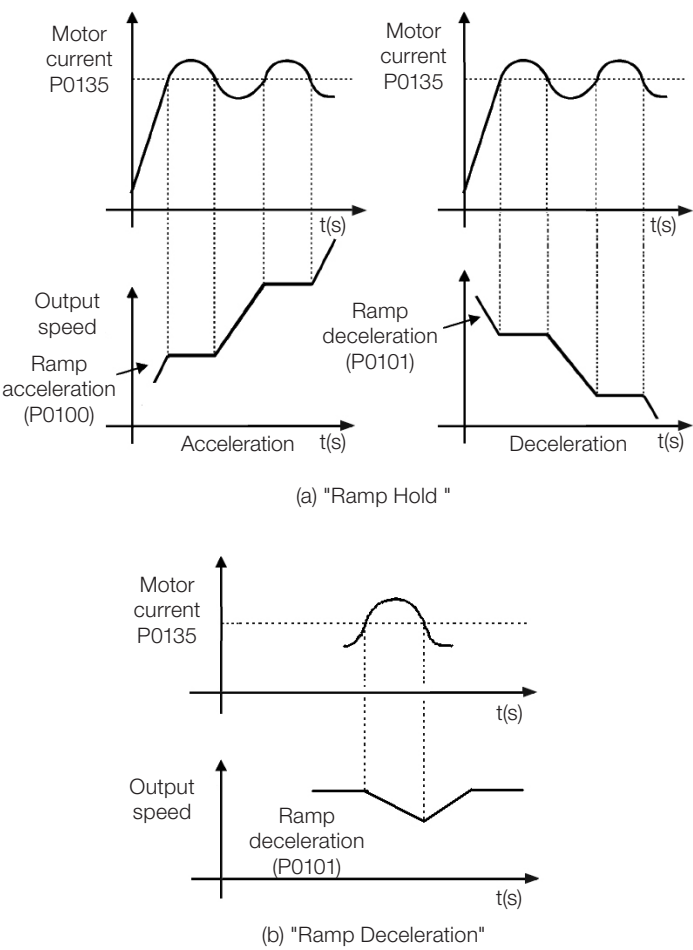

Figure 11.6: (a) and (b) Actuation modes of current limitation via P0135
- Actuation: if the motor current exceeds the value set in $P0135$ during acceleration or deceleration, the speed will not be incremented (acceleration) or decremented (deceleration). When the motor current reaches a value below $P0135$, the motor accelerates or decelerates again. Refer to Figure 11.6: \(a\) and \(b\) Actuation modes of current limitation via \$P0135\$ on page 11-8.
- Actuation: if the motor current exceeds the value set in $P0135$, a null value is forced for the speed ramp input forcing the motor deceleration. When the motor current reaches a value below $P0135$, the motor accelerates again. Look at Figure 11.6: \(a\) and \(b\) Actuation modes of current limitation via \$P0135\$ on page 11-8.
Current level to activate the current limitation for the ramp hold and decelerate ramp modes, as per Figure 11.6: \(a\) and \(b\) Actuation modes of current limitation via P0135 on page 11-8, respectively.